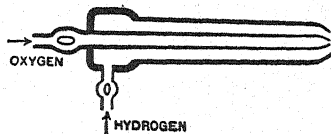

FIG. 40. — Oxy-hydrogen blowpipe.
4. *For Blowpipe Work.* In 1801 Robert Hare, an American chemist, invented the oxy-hydrogen blowpipe. (See Fig. 40.) This blowpipe consists of two concentric tubes. Hydrogen from a storage cylinder passes through the outer